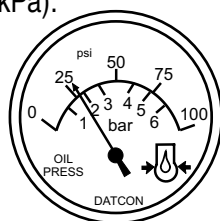

Figure 31. Oil Pressure Gauge
- The engine oil pressure gauge (Figure 31) will indicate the oil pressure of the engine. Under normal operating conditions the oil pressure is approximately 35 to 65 psi. (241~448 kPa).